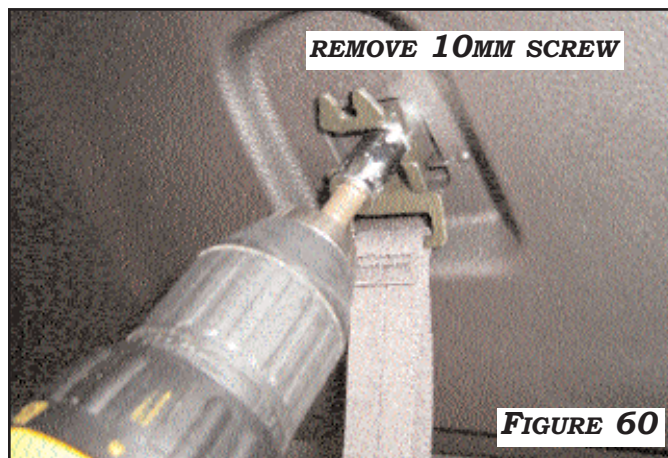

FIGURE 60
1. RELEASE PULL HANDLE TRIM COVER TO REMOVE 10MM SCREW. **FIGURE 60**